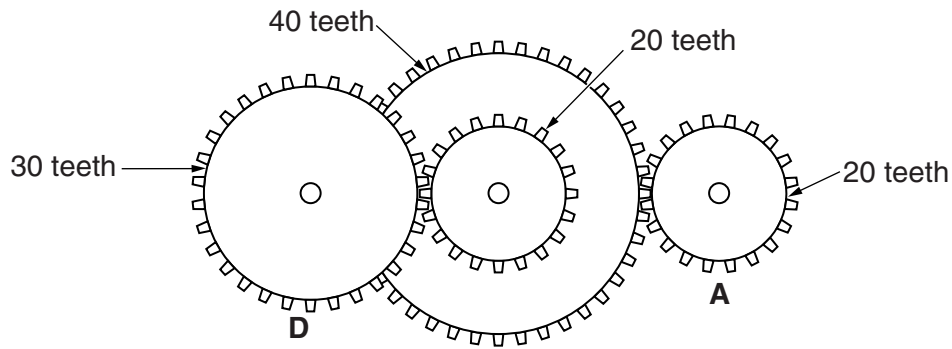

Fig. 3
4 Fig. 3 shows a gear train.
- (ii) Calculate the gear ratio of the gear train shown in Fig. 3. [3]